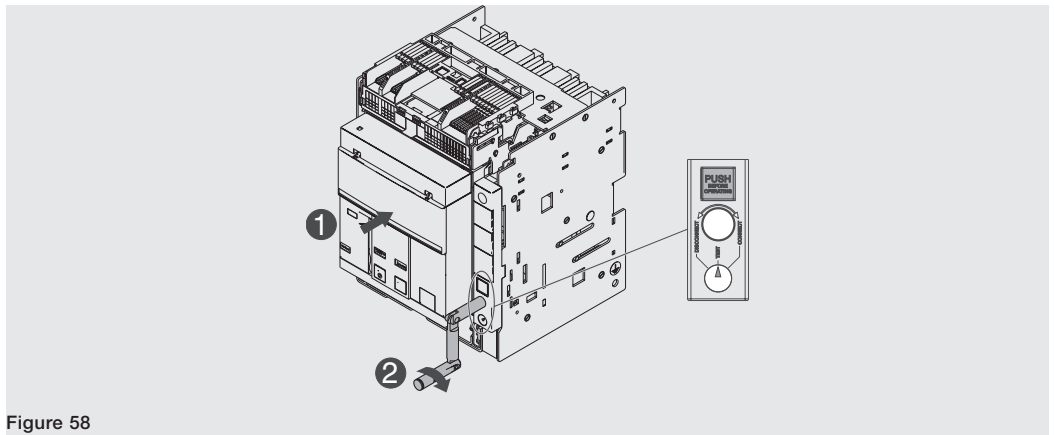

Figure 58
6. Keep breaker pushed. Turn handle clockwise until pushbutton projects and signaling device indicates that circuit-breaker is in position **TEST**. See Figure 58.